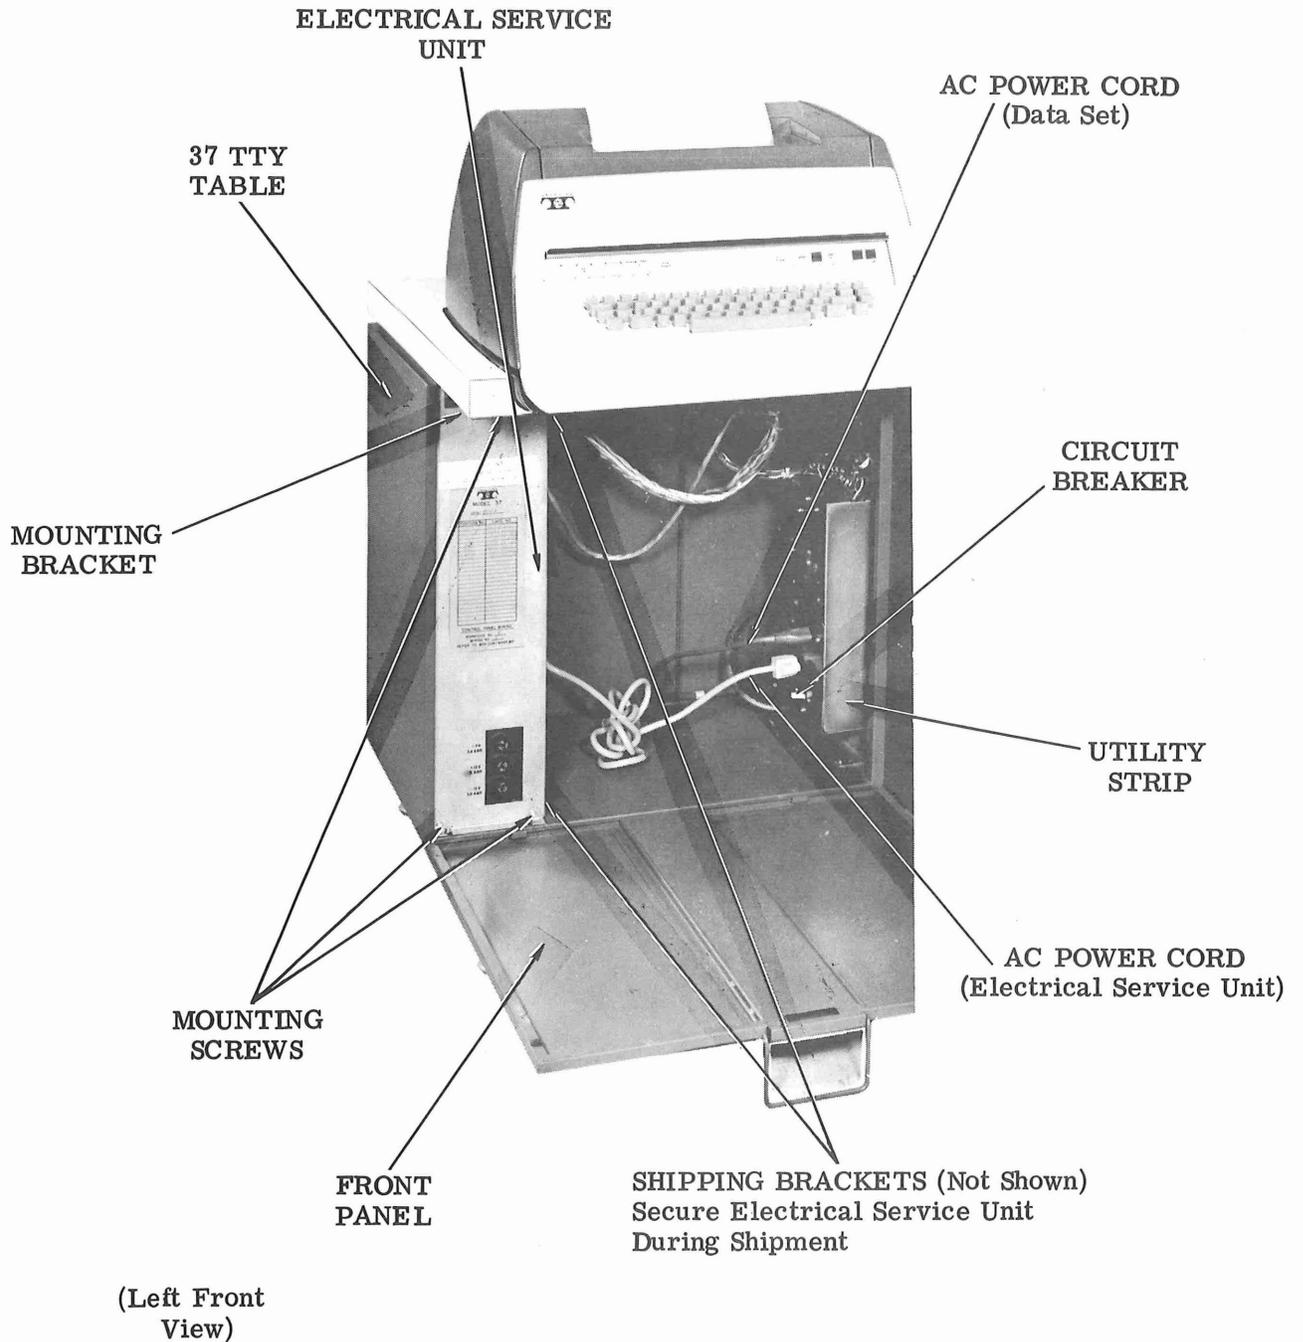

Figure 4 - 37 TTY Electrical Service Unit and Utility Strip Location in Two-Compartment 37 TTY Table
2.04 To verify that the proper options are installed in the circuit cards of the 37 TTY electrical service unit and to encode the data station answer-back drum, the electrical service unit should be removed from the left compartment of the 37 TTY table (Figure 4). Remove as follows.
- (1) Unlatch the front panel by pushing down on the release lever in the panel slot while holding the panel. Allow panel to move forward a few inches to the safety catch.
- (2) Push up on the safety catch, rotate the front panel downward, and place it to the floor.
- (3) If lower (TP333170) or upper (TP333171) shipping brackets were used to secure the electrical service unit during shipment, remove them (Figure 4). The upper shipping bracket is secured by four TP34442 screws, TP128100 flat washers, and TP3646 lockwashers. The lower shipping bracket is secured by two TP151724 screws, TP125307 flat washers, TP2669 lockwashers and two TP162730 screws, TP125014 flat washers, and TP2449 lockwashers.
- (4) Remove one (late design) or two (early design) mounting screws which secure the top front of the electrical service unit to the table.
- (5) Loosen two screws which secure a mounting bracket to the top front of the electrical service unit (Figure 4) this will enable the mounting bracket to drop.
- (6) Remove two mounting screws which secure the bottom front of the electrical service unit to the table (Figure 4).
- (7) Verify that the circuit breaker (CB101) located on the utility strip is in the OFF position (Figure 4). Turn it off if it is on.
- (8) Grasp the 37 TTY KSR electrical service unit and slide it out onto the front panel.